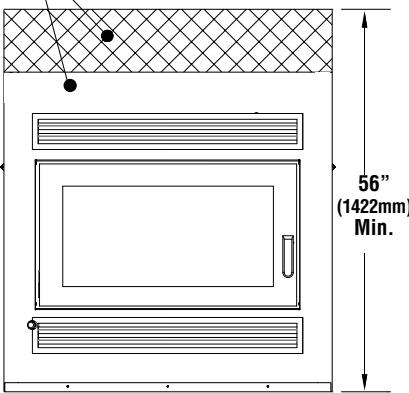

Figure 16A
1. Combustible material must be installed flush with the fireplace. It may not project in front of and on the fireplace (i.e. the steel facade of the fireplace) (Figure 16A).
2. Non-combustible materials such as brick, stone or ceramic tile may project in front of and onto the fireplace facing (Figure 16A).